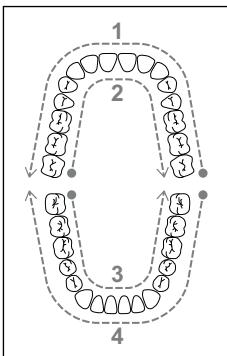

Fig. 10
- ◆ You can use the image below as a guide for the order of cleaning (see Fig. 10).